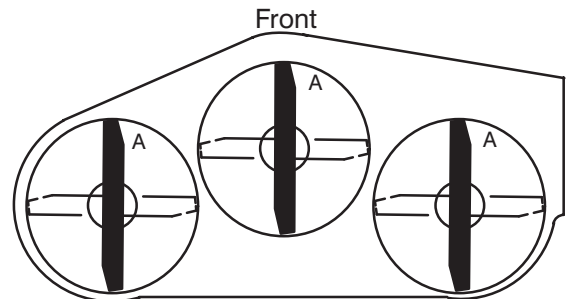
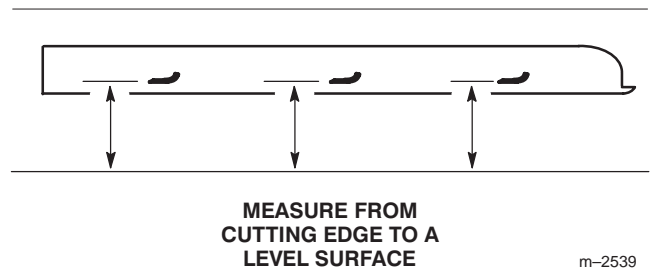

Figure 43
Figure 44
1. Rotate the blades until the ends face forward and backward (Fig. 43). Measure from a level surface to the cutting edge, position A, of the blades (Fig. 44). Note this dimension.